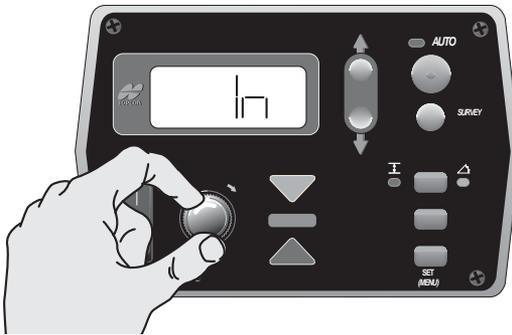

Figure 4-42. Select Measuring Unit
2. Rotate the Grade Adjustment Knob to select a unit for measuring (feet, inches, or centimeters) (Figure 4-42 on page 4-33).